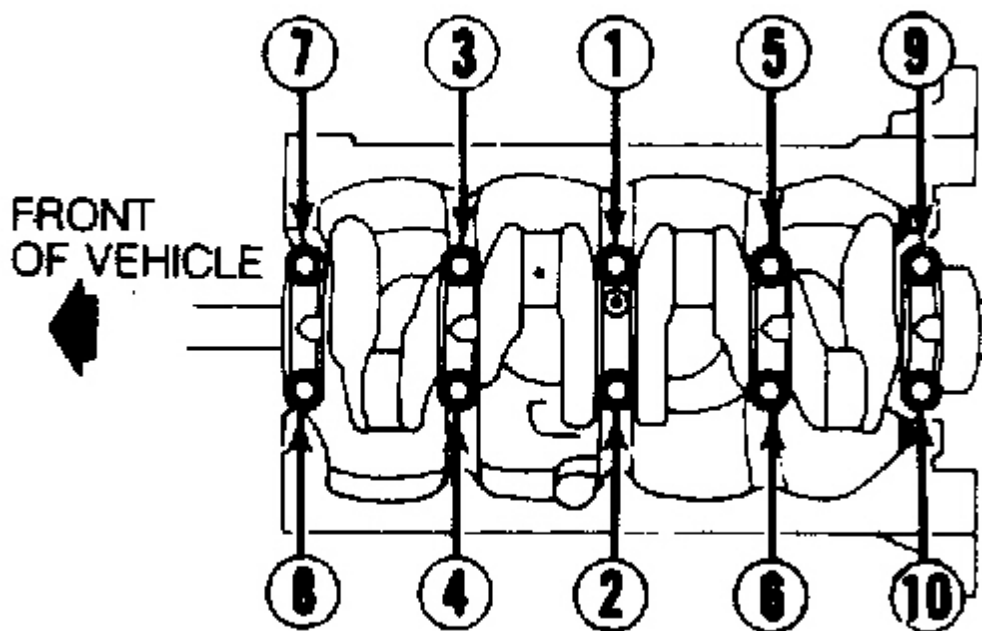

Fig. 10: Main Bearing Tightening Sequence
2. Measure bearing clearances using Plastigage method. Observe correct tightening sequence. See **Fig. 10** . If clearance exceeds specification, grind journals for undersize bearings.